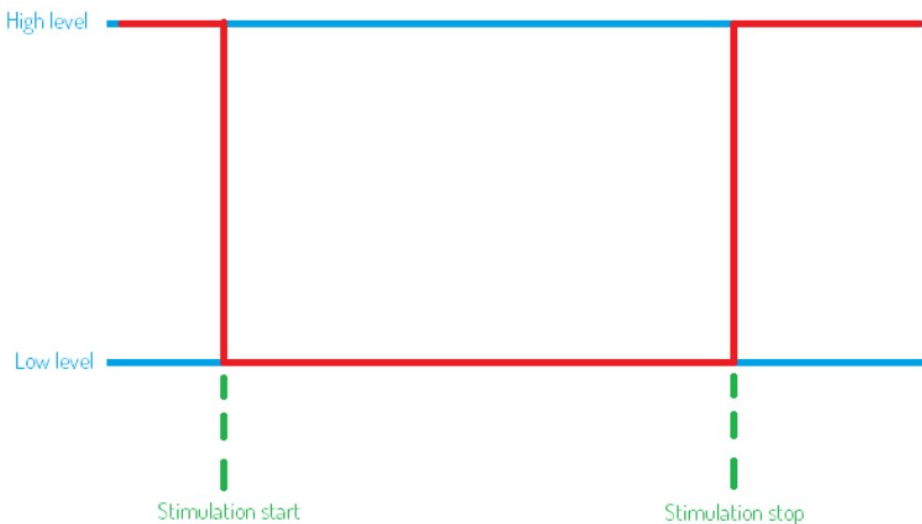

Figure 87. Trigger out setup for level low.
- Level Low (LL) – As above, only used for signalling the following events: Start or Stop of the stimulation. When stimulation is being administered the signal level is low. When there is no stimulation the signal level is high (Figure 87)